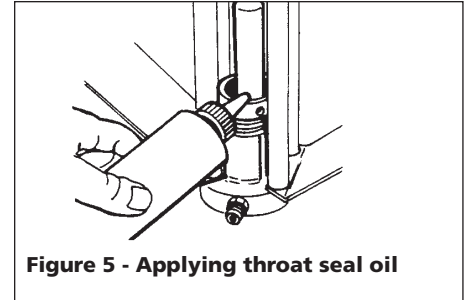

Figure 5 - Applying throat seal oil
2. Fill the Packing Nut/Wet Cup 1/3 full with Throat Seal Oil (TSO) supplied. See Figure 5.